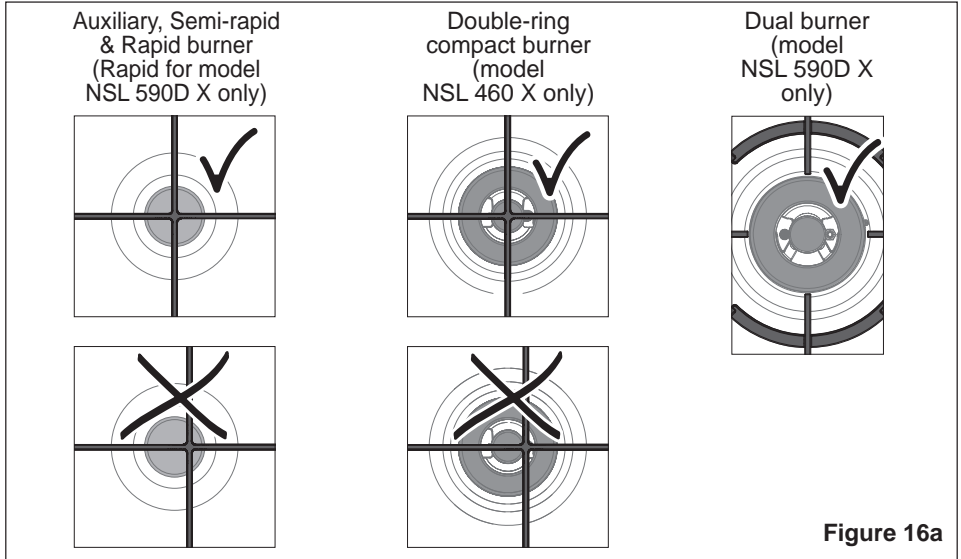

Figure 16a
- The prongs of the pan supports must always be centred with the burners (fig. 16a).